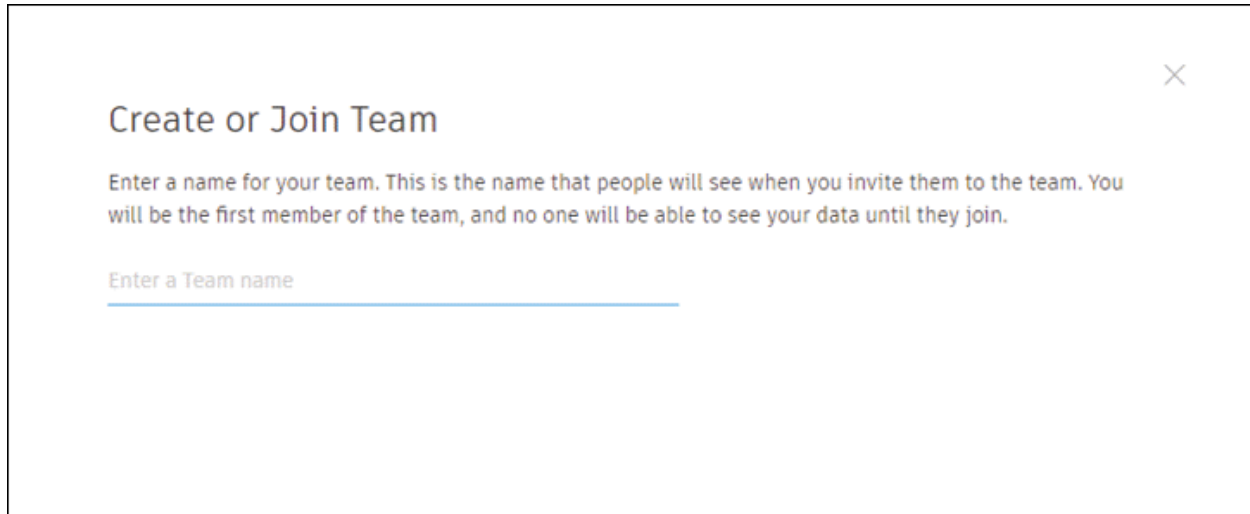

Figure-107. Specifying name of team
- Click on the **Create a Team** option from the dialog box displayed. You will be asked to specify name of the team in next page of dialog box; refer to Figure-107.